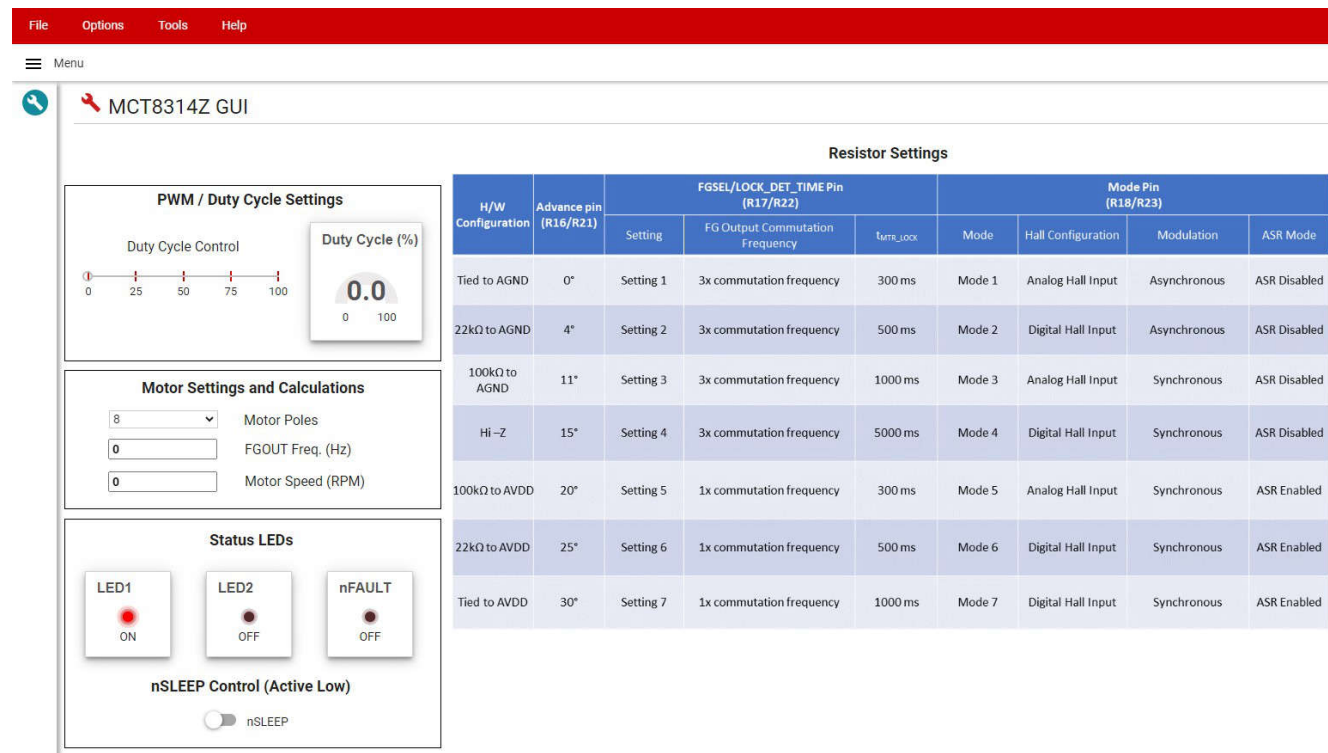

Figure 3-1. MCT8314Z GUI
3. Once the GUI has launched a screen similar to the one shown in Figure 3-1 appears.